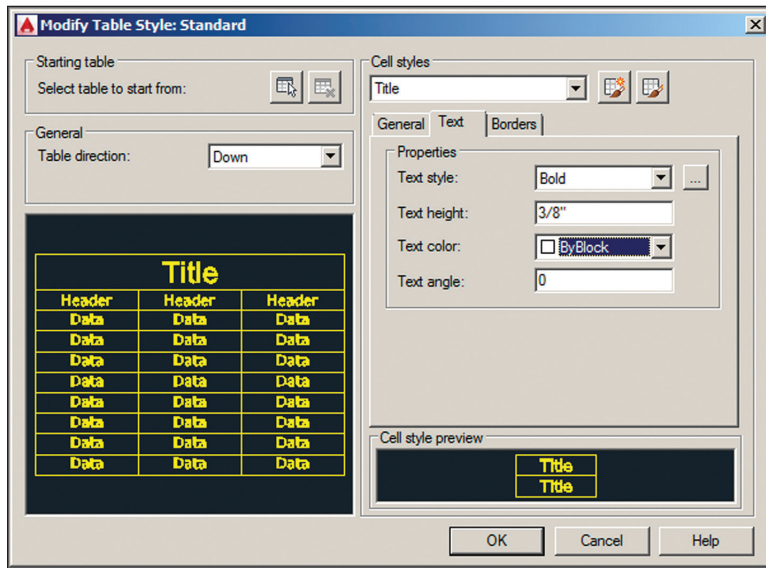

FIGURE 15.16 Editing the Title cell style text properties
3. Select the Text tab within the Modify Table Style: Standard dialog box. Open the Text Style drop-down menu and select Bold. Double-click the Text Height text box, type 3/8 (or 0.80 cm), and press the Tab key (see Figure 15.16).